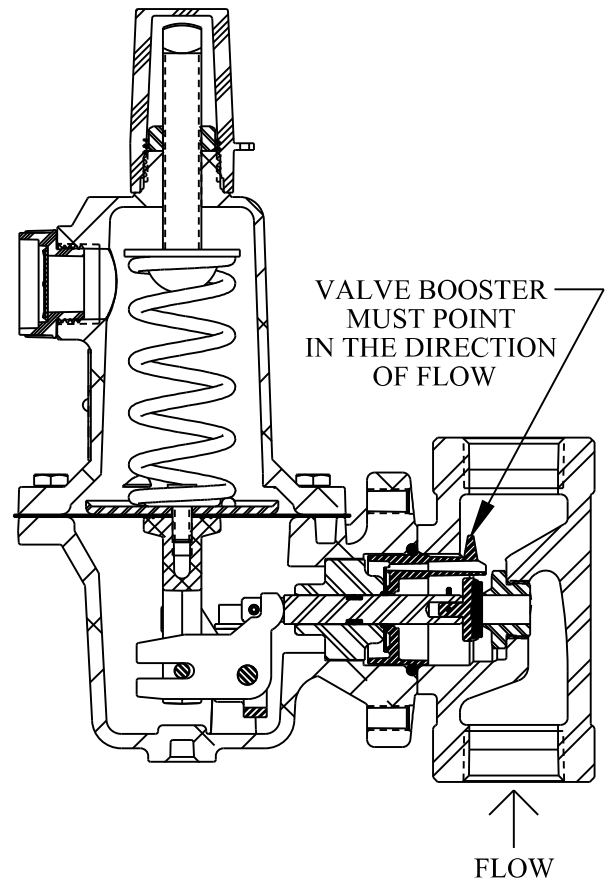

FIGURE 5: KPRL CROSS-SECTION
2. All maintenance operations can be completed without removing the body (2) from the piping setup.
3. Upon reassembly, always ensure that the valve booster (21) is pointing in the direction of flow (see Figure 5).